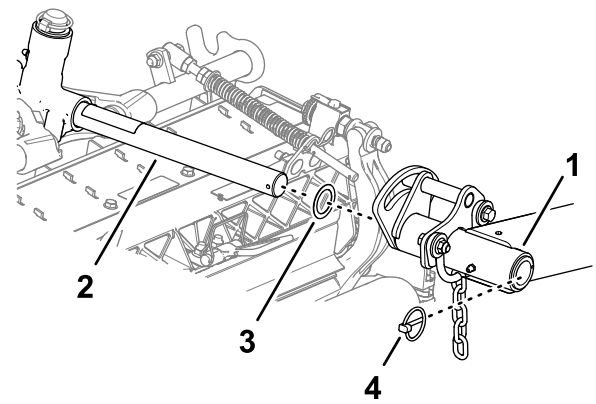

Figure 30
3. Slide a cutting unit under the lift arm (**Figure 30**).